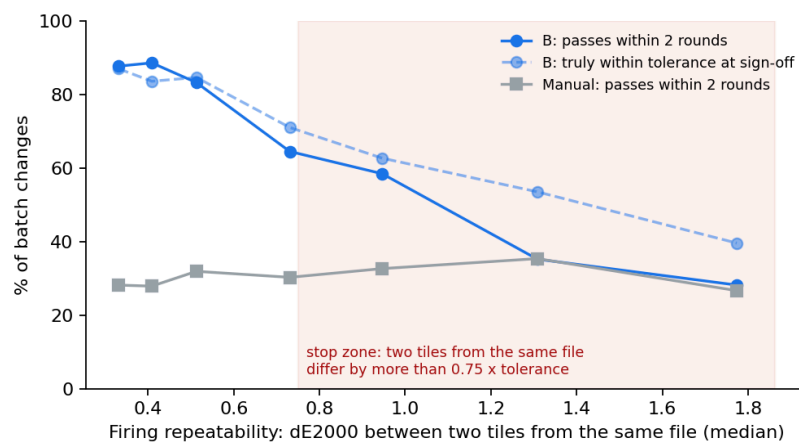

Fig. B1: the stop rule. Once two tiles from the same file differ by more than ~ 0.75 of the tolerance, the method's advantage disappears.
- **Protocol:** (1) **Kiln gate, week 2:** 5 tiles $\times$ 2 kiln passes from one file. (2) **Bench, weeks 5–7:** 10 SKUs (plain and patterned), drift induced with a different glaze lot or kiln setting. (3) **Paired live test, weeks 8–11:** 20 real batch changes across ≥ 6 SKUs. For each one, the team's manual variants and our designed round go through **the same kiln pass**. Tiles are coded so the lab tech measures blind. The client's lab measures, the QC head decides pass or fail, and we never touch the readings. **Is 20 enough?** A method that truly works 78% of the time clears the $\geq 15/20$ bar 73% of the time, while a 50% method clears it 2% of the time (binomial). A 13–14/20 result means extend by 10 batch changes, not stop.
- **Stop rules:** (a) two tiles from the same file in the same pass differ by $> 0.75 \times$ tolerance. Then the kiln, not the file, is the problem: we stop and recommend process-control work (prototype fig. B1: above that point the method falls back to manual levels). (b) $< 50\%$ of bench cases are in tolerance after one designed round. (c) the tool wins fewer than 12 of 20 paired comparisons.